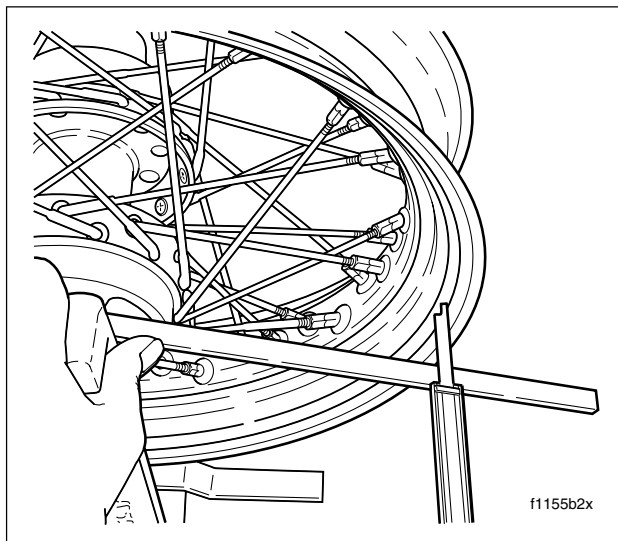

Figure 2-27. Checking Laced Hub Offset Dimension
3. Lay a straightedge across the hub brake disc flange (valve stem side of dual disc front wheel) and one of the marked spoke groups. Measure the distance from the straightedge to the edge of the rim as shown in Figure 2-27. Be sure to subtract the thickness of the straightedge.